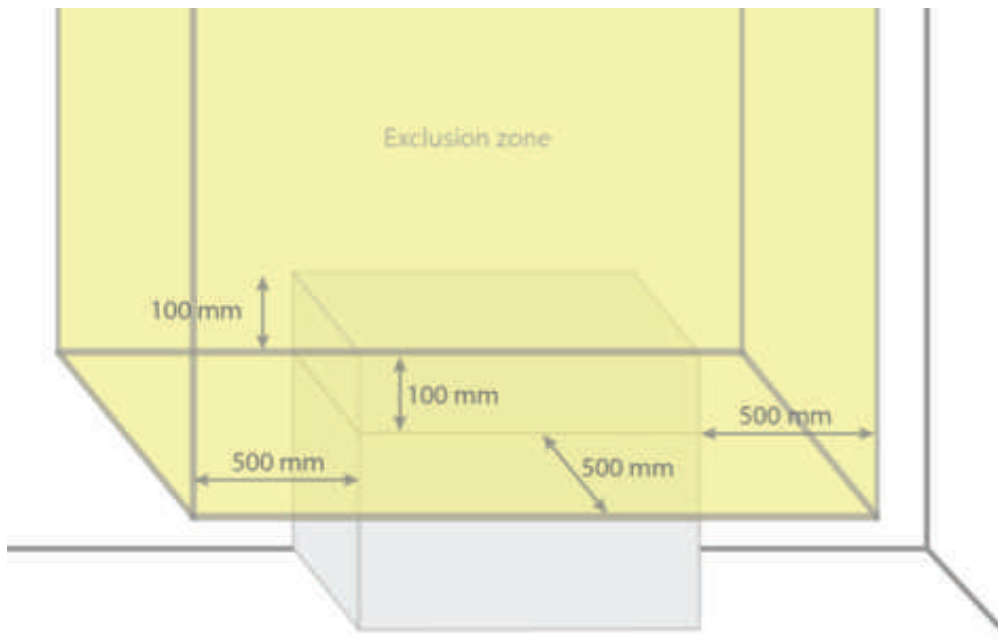
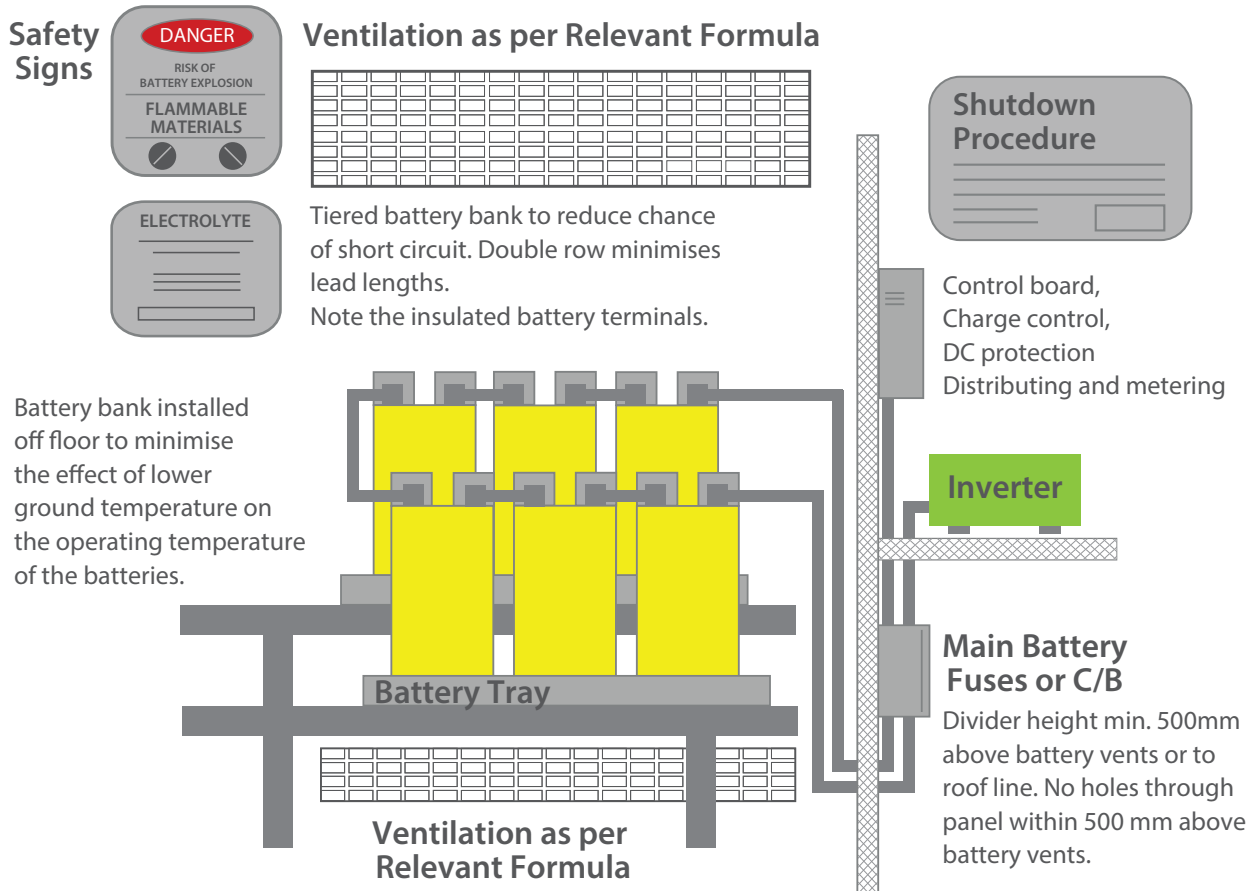

Figure 7: Exclusion zone for equipment located near a battery system
Figure 8: Example of Battery Room Layout with divided Wall
- Explosive and/or corrosive gas-emitting battery systems should not be located within 500 mm (20 inches) horizontally of any other equipment from 100 mm (4 inches) below the battery terminals (Figure 7), except where there is a solid separation barrier (Figure 8).